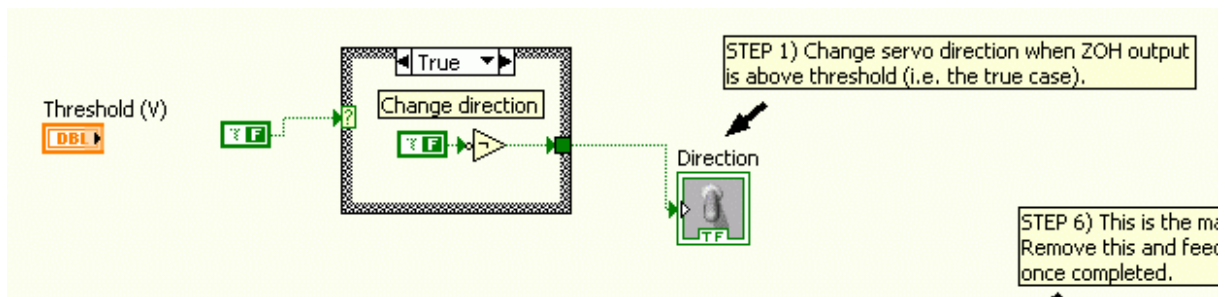

Figure 4.5: Add code to change servo direction when ZOH output exceeds threshold value
7. Go into the block diagram of the QNET_MYOELECTRIC_Student.vi and find the area that is depicted in Figure 4.5, below. Change the block diagram such that the servo direction, i.e. the *Direction* indicator, changes when the output from the ZOH block exceeds the value in the *Threshold (V)* control. Use the case structure and remove the constant Boolean values (they are just place holders so the VI can be compiled and ran). Copy and paste this section of the block diagram and attach it.